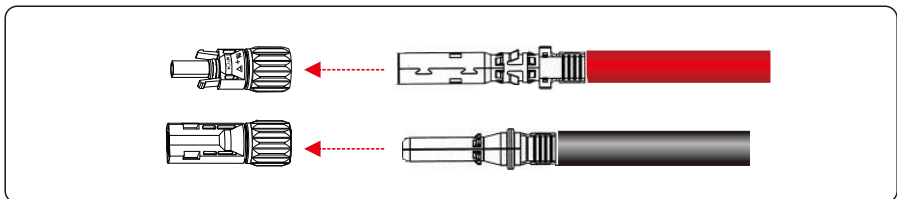

Figure 5.11 Connecting positive and negative connectors
**Step 3** Insert the crimped positive and negative power cables into the corresponding positive and negative connectors until a "click" sound is heard, as shown in Figure 5.11.